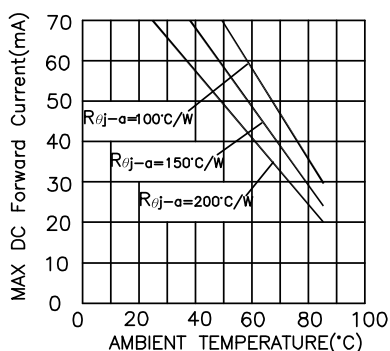

Figure4: SE-H
1. Derate as shown in Figures 4.